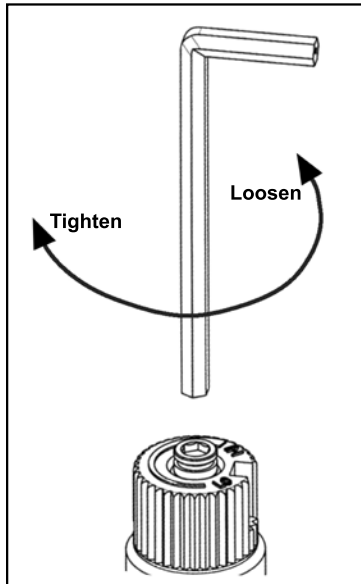

Figure 11: Removing valve screw.
b) Insert a $\frac{5}{32}$ " or 4 mm Allen wrench into the hexagonal key-way of the screw (see Figure 11), rotate it counter-clockwise until it is free and extract it.
e) Using the Allen wrench as shown in Figure 11, rotate the screw clockwise until a torque of 9 inch lbs. **WARNING!** Do not over tighten the screw. It is recommended that you grip the wrench by the short side.
The dimensions for installing a fireplace in the corner of a room are given below in Figure 11.